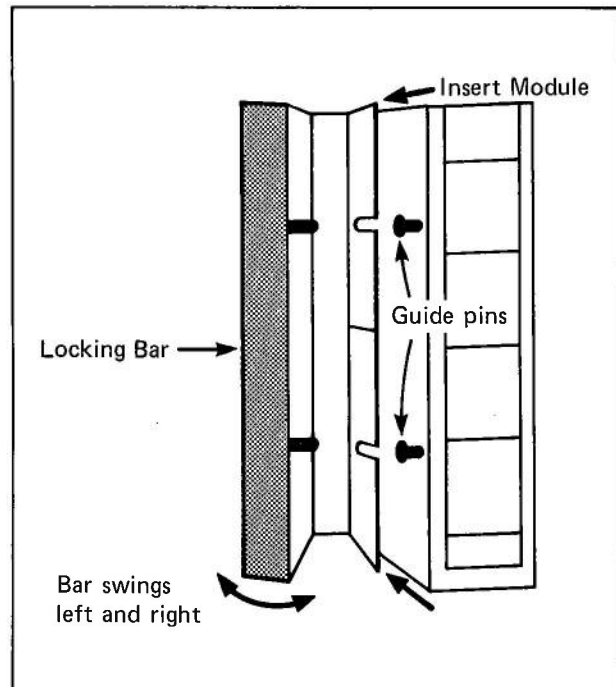

Figure 6 — Guide Slots
Step 7 — Move the Locking Bar on the I/O Rack's built-in terminal block to the left in order to uncover the guide slots on the block. (See Figure 6.)